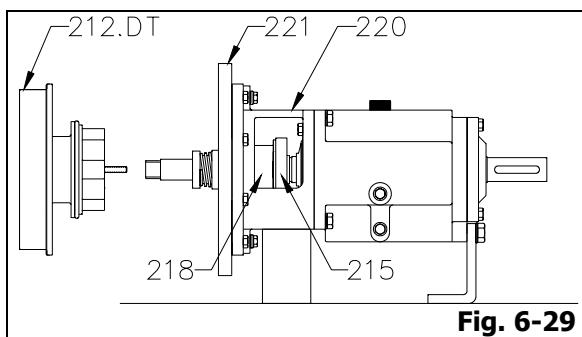

Fig. 6-29
- Remove all stuffing box cover bolts (where applicable). By holding seal cover (215) and seal cover extension (218) in place, slowly lift off stuffing box cover (212.DT) assembly from frame adaptor (220) or adaptor extension ring (221) (Fig. 6-29).